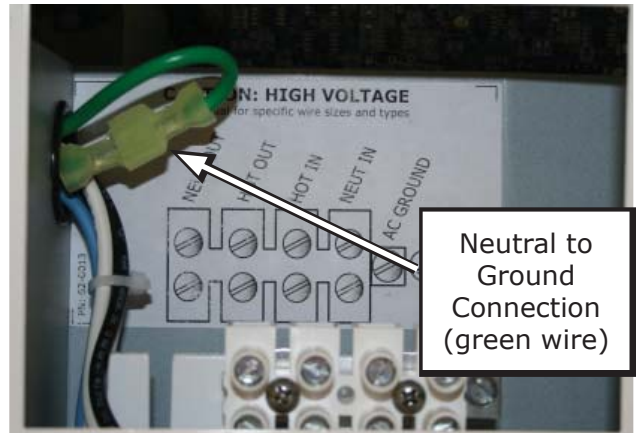

Figure 2-18, Disconnecting the Neutral to Ground Connection
2. Look inside and locate the green wire with the insulated connector at the top of the AC wiring compartment; see Figure 2-18. This insulated connector connects the neutral and ground inside the inverter.